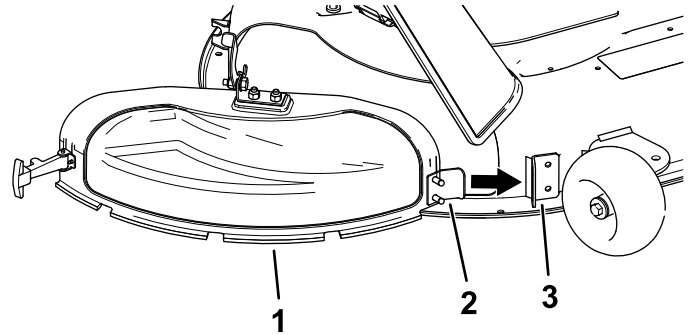

Figure 14
- 3. Angle the metal tab on the discharge cover into the slot in the bracket welded to the mower deck (Figure 14).